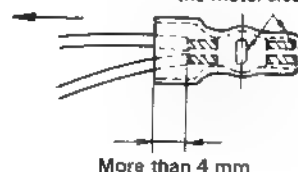

Fig. 35
5. After solderless securing, check the following as shown in the Fig. 35.